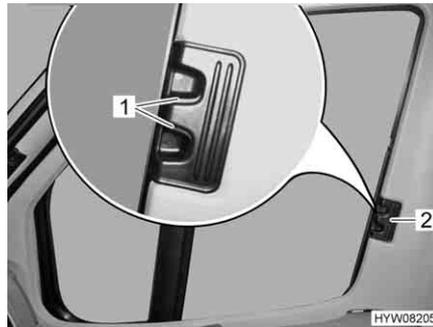

Fig. 89 Roman shade for driver's and passenger's window
- Press the release handles (Fig. 89,1) and hold them down.
- Using the handle (Fig. 89,2), draw the Roman shades for the driver's and passenger's window to the other side of the window and secure them to the magnetic strips.
- Use handle (Fig. 89,2) to push in the Roman shades for the driver's and passenger's window as far as possible.
- Let go of the release handles (Fig. 89,1) and let them engage.